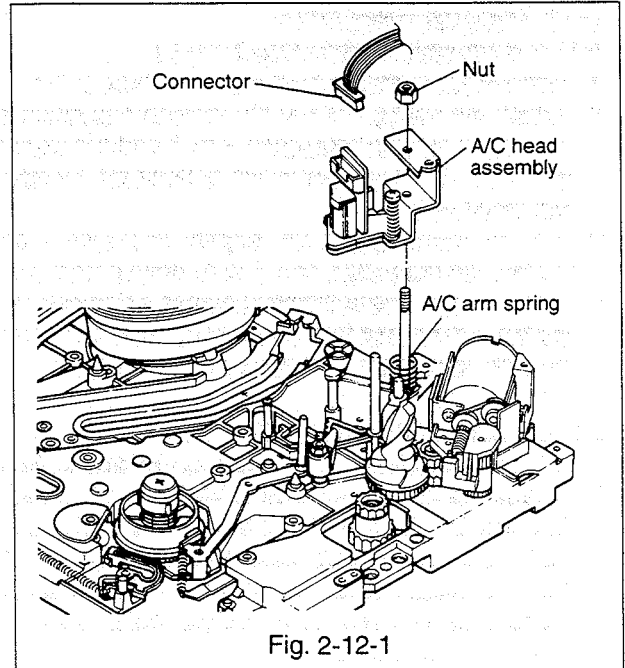

Fig. 2-12-1
### 2-12-1 Removal (Refer to Fig. 2-12-1, 2-12-2.)
- Disconnect the connector from the PCB-A/C HEAD.(Refer to Fig. 2-12-1.)
### 2-12-2 Installation(Refer to Fig. 2-12-1~2-12-3.)
(Refer to Fig. 2-12-1.)